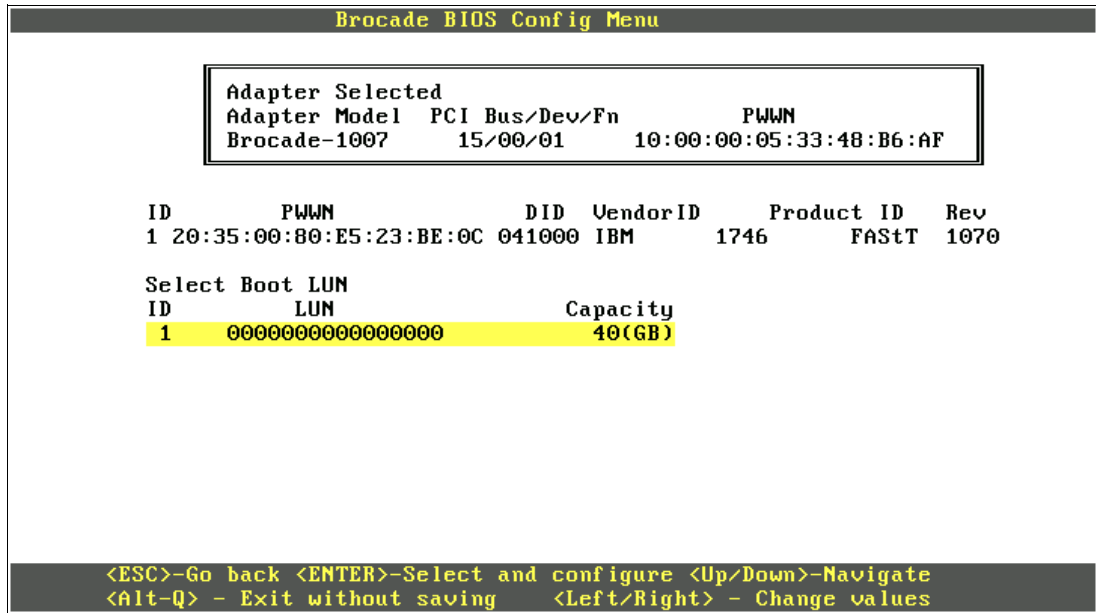

Figure 9-210 Selecting the LUN you want to boot from
15. When you see the available LUN, select the LUN you want to boot from, and then press Enter (Figure 9-210).
The boot LUN must be one LUN with all 0s. Some operating systems require the LUN to be LUN 0 (as shown in Figure 9-210) to boot from. If you see a LUN with a number other than 0, sign in to your SAN disk storage device, and redo your mapping to ensure that the LUN is LUN 0. Then reboot the blade server again, and go back to 1 on page 421 to repeat this part of the procedure.
LUN versus LUN ID: This step refers to LUN in terms of a number, not a LUN ID (Figure 9-210 on page 426). The LUN ID is 1, but the LUN itself is 000000000000000000, which is acceptable.